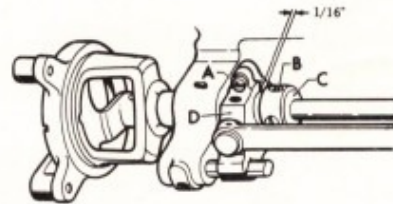

Fig. 10
- a) Loosen screw (A) Fig. 10 and adjust clearance by moving race body right or left. Tighten screw (A) securely.
5. The correct position of shuttle race reciprocating arm (D) Fig. 10 is obtained when the side edge of reciprocating arm is about $1/16$ of an inch from the end surface of race axis. (see Fig. 10) This position is important for smooth motion of race. Therefore, in case the adjustment of needle and hook clearance gives the position of reciprocating arm substantial amount of displacement, it is recommended to set this position properly first, then adjust hook/needle clearance by the above procedure (b) and finally make a micro-adjustment by the procedure (a).
3. To correct, loosen screw (A) Fig. 10 and correct the position of race body by turning it to right or left.
4. Tighten the screw (A) Fig. 10 securely.